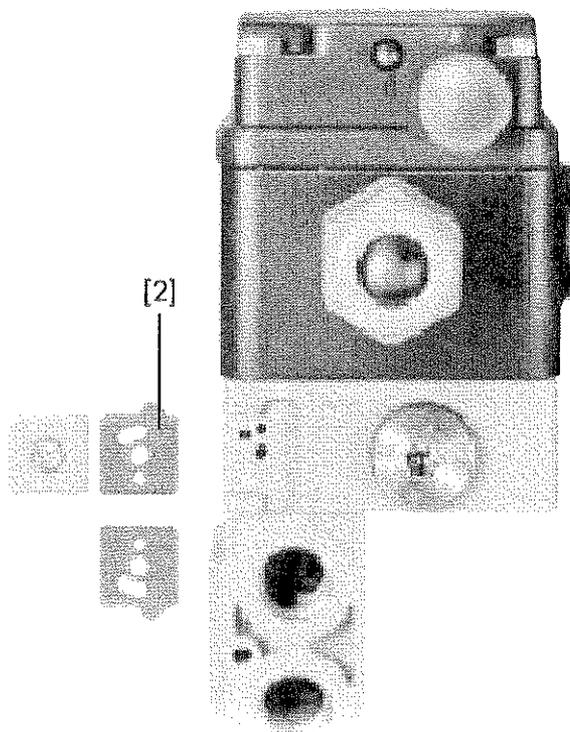

Fig. 11
2. Turn flat gasket [2] by 180°. The **tab** of flat gasket [2] is then placed in **cutout "9"** of the **connecting plate** (Fig. 11).